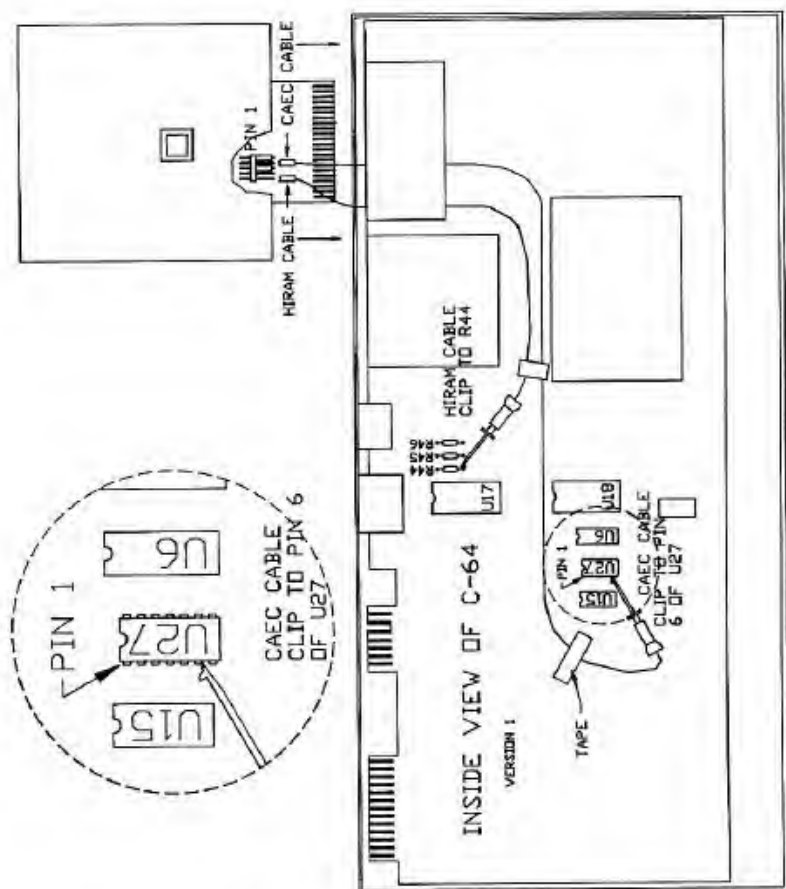

FIG. 2
**Step 2** - Locate the HIRAM and CAEC cable assemblies. Refer to FIGS 2 and 3 to find your model and attach the HIRAM clip to the lead indicated of resistor R44 and attach the CAEC clip to PIN 6 of chip U27. Be sure that the clip is not shorting to any of the adjacent pins of either chip. Secure both leads with small pieces of scotch tape and dress each end out the opening for the expansion slot on rear of computer. NOTE: On some models, the metal shield must first be lifted by removing the TORX screws as needed, and then un-twist the small metal tabs around the perimeter of the shield. Replace this shield after the above clips are installed.
**Step 4** - Locate the HOST ADAPTOR and push the HIRAM connector onto the leftmost pair of pins of plug P1 as shown in FIGS 2 and 3. Push the CAEC connector onto the 4th set of pins from the left on plug P1 again as shown in FIGS 2 and 3. The jumpers on the 3rd and 5th sets of pins must also be in position as shown. The Host adaptor may now be inserted into the EXPANSION connector on the rear of the computer.